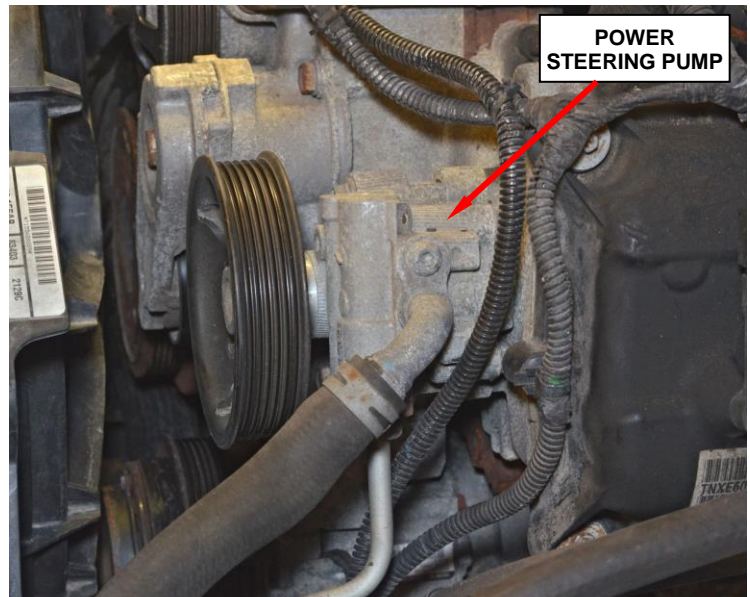

Figure 1 – Power Steering Pump
8. Remove and save the power steering pump retaining bolts (Figure 1).